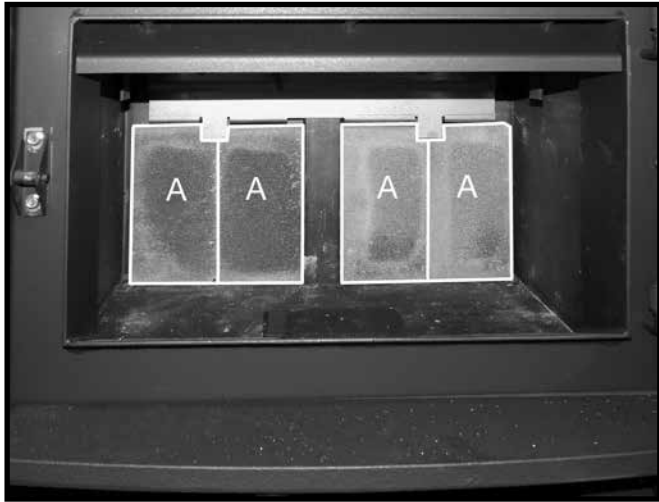

Figure 18: Remaining rear wall firebricks in place.
1. Stand one "A" firebrick vertically behind the tab located on the brick rail. Slide the firebrick toward the center of the rear wall (Figure 18). Slide a 2nd "A" firebrick underneath the tab on the brick rail (Figure 18). Repeat steps 1 & 2 for the placement of the other "A" firebricks on the rear wall (Figure 18).